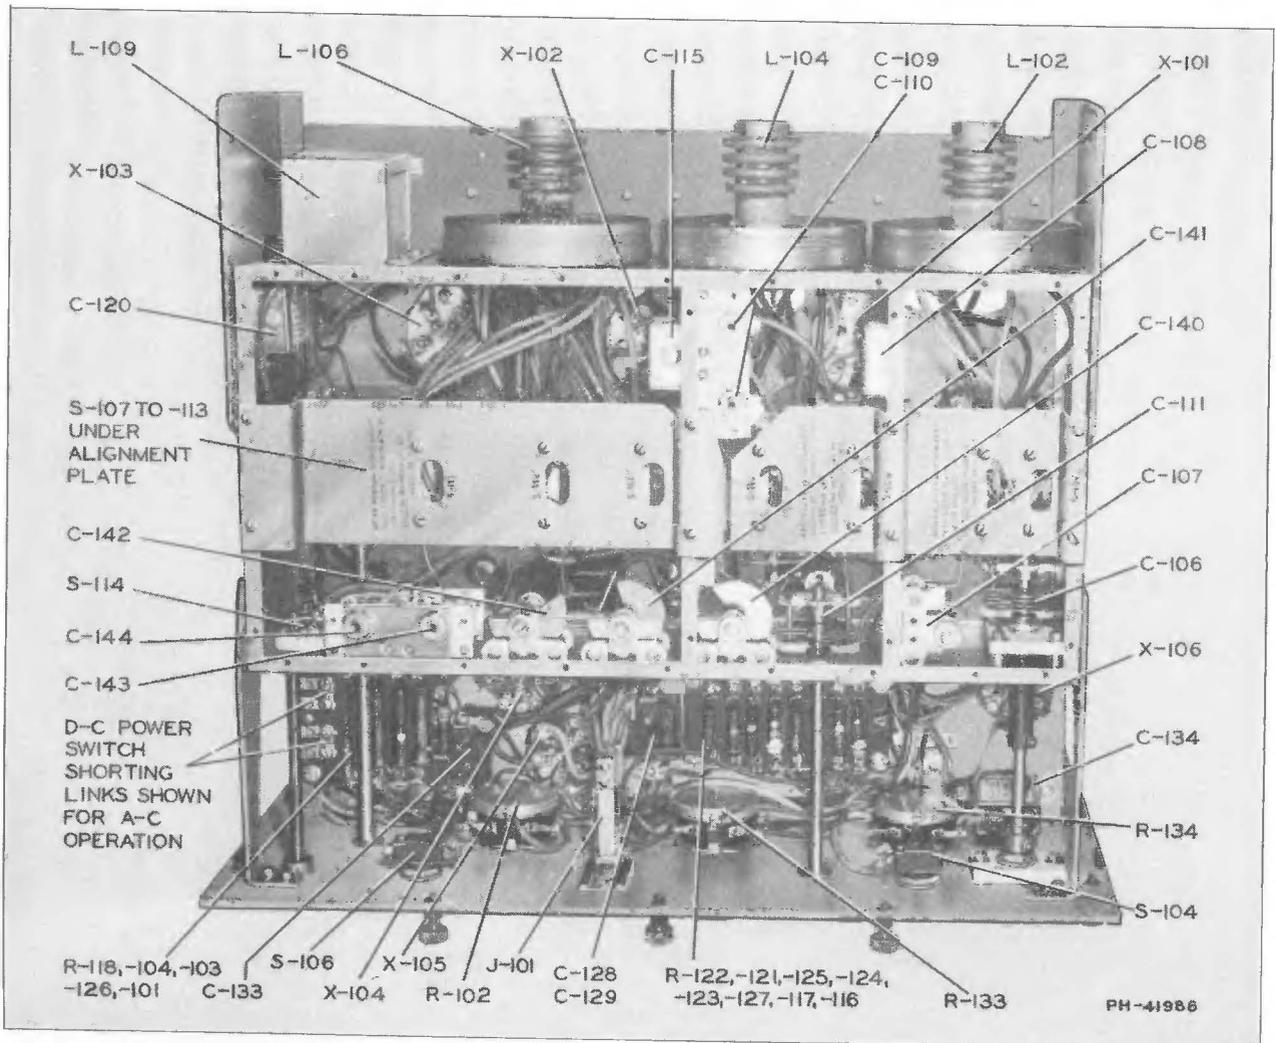

Figure 6—Receiver Unit CRV-46044 (Bottom View of Chassis—Covers Removed)
- 9.4-8 Normally, the a-c power is controlled either from the control unit or the power unit. In addition, a d-c power "On-Off" switch is provided on the receiver panel for use only in the event the receiver in an emergency is operated on batteries. *If this switch is opened when the receiver is normally operated on a.c., the load is removed from the power unit and overloading and damage of certain of its parts may result.* For this reason, shorting links are provided behind the panel (see Figure 6) which permanently close this switch circuit. If it is desired in an emergency to operate the receiver on batteries, these links should be opened.
- 10.1-17 "D.C. POWER OFF-ON" Switch: This switch is not used in the normal operation of this equipment and is accordingly wired out of the circuit by short-circuiting links located under the chassis (see Figure 6).
- NOTE: HOWEVER, SHOULD OCCASION ARISE, THIS EQUIPMENT MAY BE OPERATED FROM A BATTERY SUPPLY CONSISTING OF SUITABLE FILAMENT AND PLATE BATTERIES. THIS METHOD OF OPERATION WILL REQUIRE OPENING OF THE SHORT - CIRCUITING LINKS (SEE FIGURES 6 AND 19) AND CONNECTION OF CABLE W-201, AS INDICATED BY THE DOTTED LINES IN FIGURE 15. OPERATION OF THE RECEIVER WILL THEN BE CONTROLLED BY THE "DC POWER" SWITCH ON THE FRONT PANEL.**